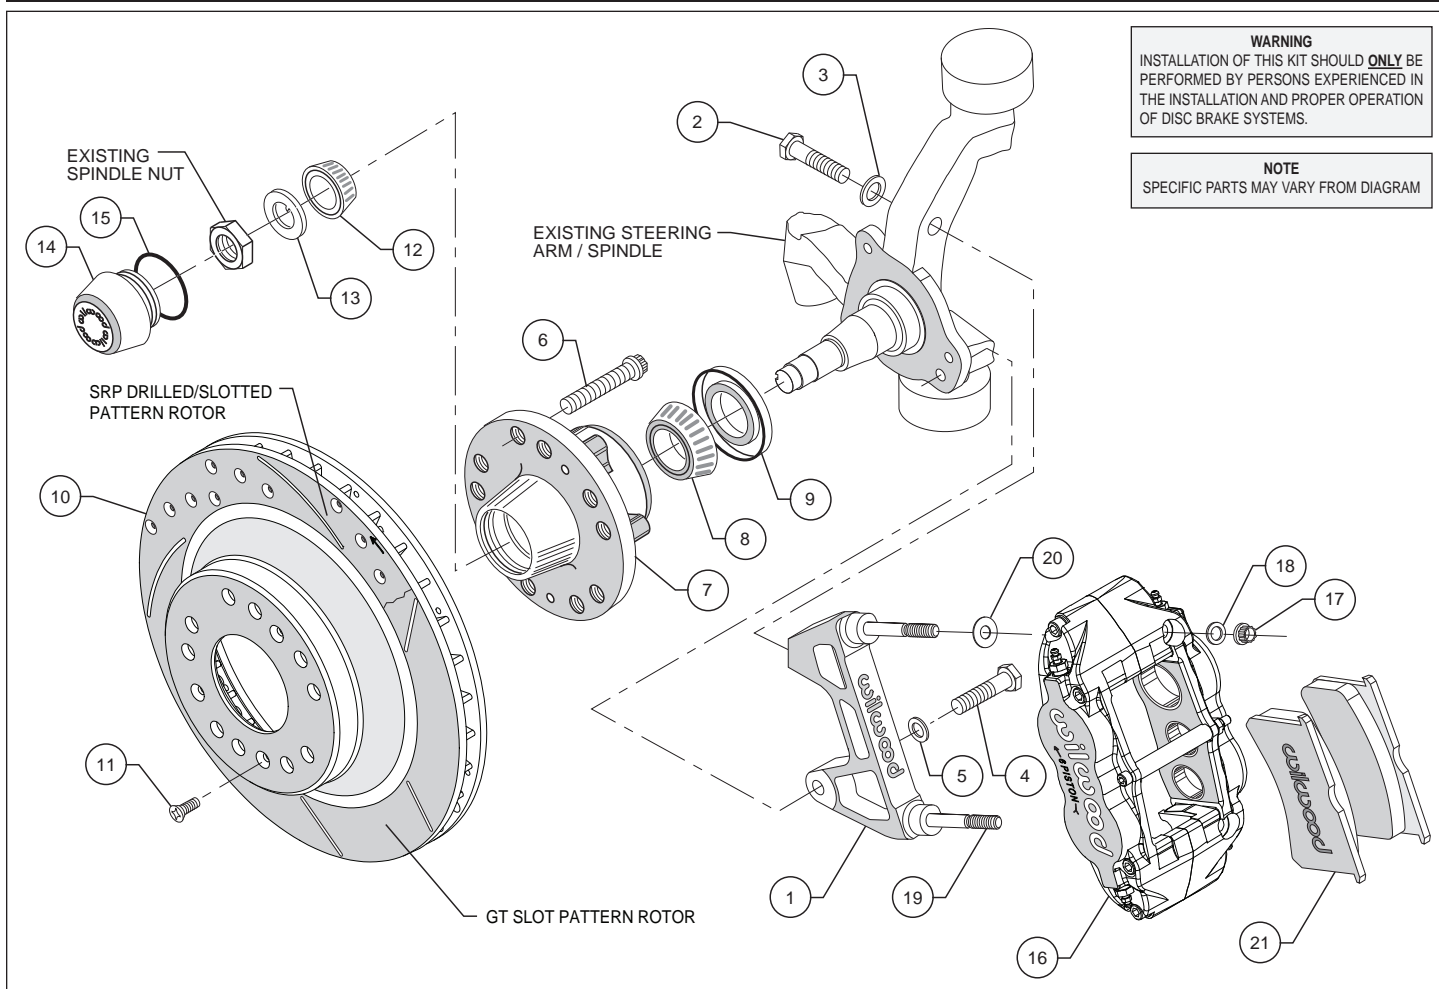

Figure 1. Typical Installation Configuration
**Assembly Instructions** (numbers in parenthesis refer to the parts list on the preceding page, and Figure 1):
- The caliper mount bracket (1) should initially be installed with clean, dry threads on the mounting bolts. Orient the bracket as shown in Figure 1, and install using bolts (2/4) and washers (3/5). Temporarily tighten the mounting bolts. **NOTE:** *The bracket must fit squarely against the mount bosses on the upright.* Inspect for interference from casting irregularities, machining ridges, burrs, etc. After the bracket fitment has been checked, remove the bracket bolts one at a time and apply red *Loctite*® 271 to the threads. Torque bolt (2) to 65 ft-lbs., and bolt (4) to 50 ft-lbs.
- Install wheel studs (6) into the hub (7), Photo 1. Torque to 77 ft-lb. **NOTE:** *There are two five lug patterns in the hub (5 x 4.50 and 5 x 4.75).* Ensure the correct hub stud pattern is being used to fit the wheel application.
- Pack the large inner bearing cone (8) with high temperature disc brake bearing grease (available from your local auto parts store) and install into the backside of the hub (7), Photo 2.
- Install the grease seal (9) by pressing into the backside of the hub (7), flush with the end of the hub, Photo 2.
- Pack the small outer bearing cone (12) with high temperature disc brake bearing grease and install into hub (7). Slide the hub assembly onto the spindle. Secure using spindle washer (13) and OEM spindle nut, Photo 3. Adjust bearings per OEM specifications. Install saved OEM nut lock (if any) and a new cotter pin (not included).
- Screw dust cap (14) into hub (7), Photo 4. Friction created by the o-ring (15) on the dust cap keeps it from unscrewing. **NOTE:** *The O.D. of the existing OEM spindle washer may be larger than the I.D. of the dust cap not allowing it to seat against the hub face. Therefore, use the spindle washer (13) supplied with the kit instead of the OEM washer.*
- Slide the hat/rotor (10) onto the hub (7) taking care to align the small countersunk holes in the hat with the small threaded holes in the hub. **NOTE:** *The hat must fit flush against the hub face or excessive rotor run out may result.* Install three flat head screws (11) through the small holes in the hat (10), Photo 4, and torque to 85 in-lb.
- NOTE:** *This kit contains distinct right and left hand calipers that must be mounted in a specific direction, as described below.* Lubricate the caliper mounting studs (19) with lightweight oil. Initially place one .035" thick shim (20) on each stud between the caliper and the bracket, as shown in Figure 1 and Photo 5. Mount the caliper (16) onto the bracket (1) using lock nuts (17) and washers (18), Figure 1. Ensure that the caliper is mounted so the largest pistons are at the rotor exit end of the caliper, in relation to the direction of rotor rotation. Temporarily tighten the lock nuts.